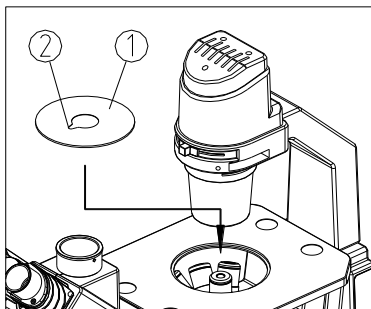

Fig. 4
(1) Assemble the metal stage (1) on the stage aperture. (See Fig.4)
(2) Turn the metal stage to face the V groove (2) to the user, so that it is easy to check the objective.
(3) When using the glass stage, just lay it down flat. There is no special requirement for direction.